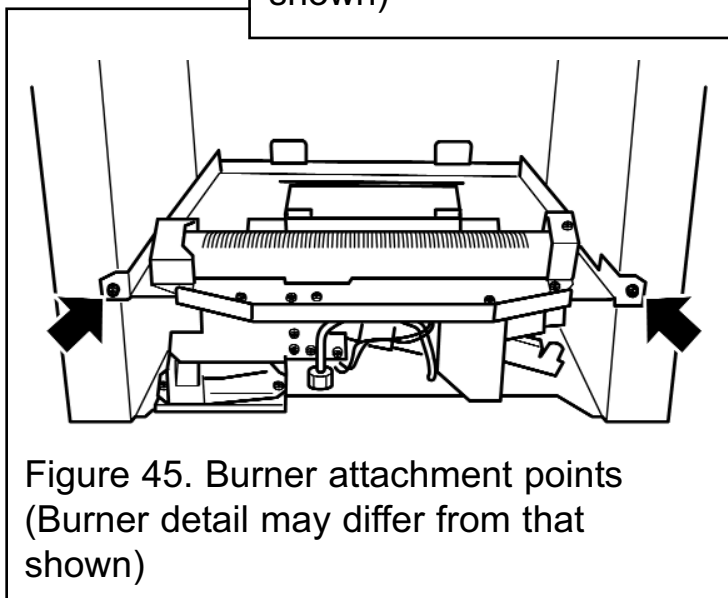

Figure 45. Burner attachment points (Burner detail may differ from that shown)
4. Detach the burner unit from the hotbox by removing two screws (See figure 45).